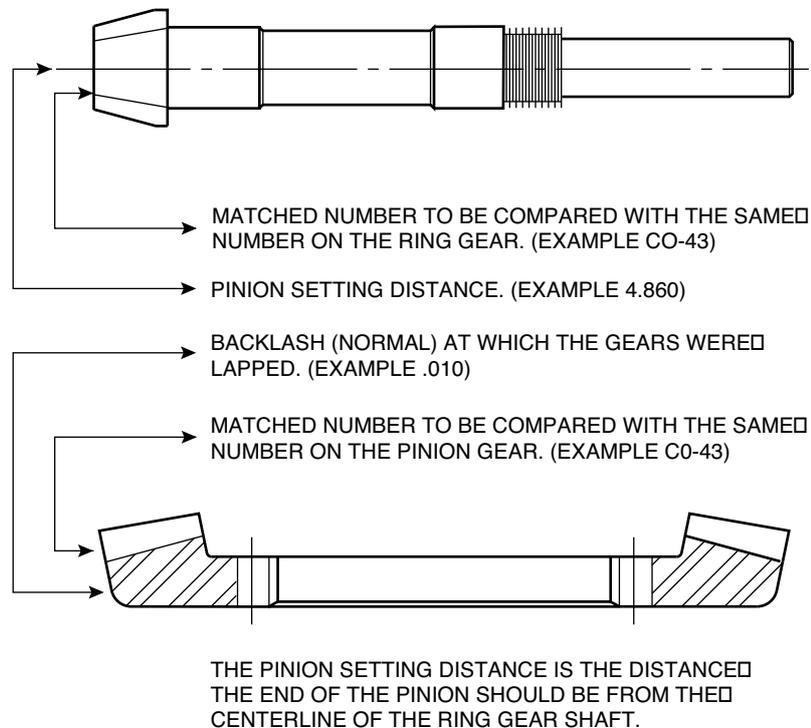

Figure 4 – Gear Match Numbers and Setting Data
Note—The thickness of the shim pack (320) is important in resetting the gears. The shim pack should either be saved or carefully measured with a micrometer. If the gears are to be replaced, record the pinion setting distance that is etched on the pinion gear. See **Figure 4**.
4. Remove bearing retainer and shim pack (420) from top of case.
Before assembling a new pinion gear in the pinion cage, check match numbers on pinion gear and spiral bevel ring gear to be certain that they are a matched set. Gears are lapped in matched sets at the factory and should not be separated. Numbers are etched on both the pinion and ring gear as illustrated in **Figure 4**.
10. Record the pinion setting distance that is etched on the pinion gear. See **Figure 4**.